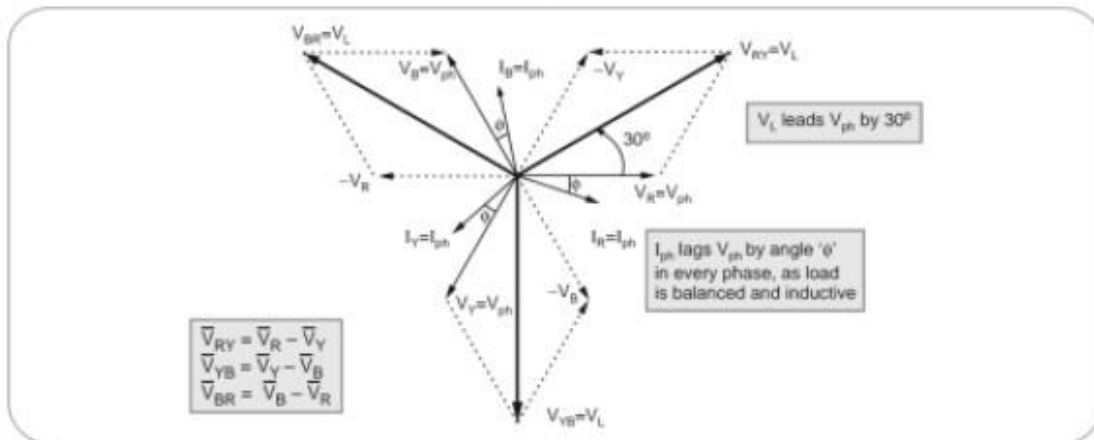

Fig. 1.6.3 Star and lagging p.f. load
- The complete phasor diagram for lagging power factor load is shown in the Fig. 1.6.3.